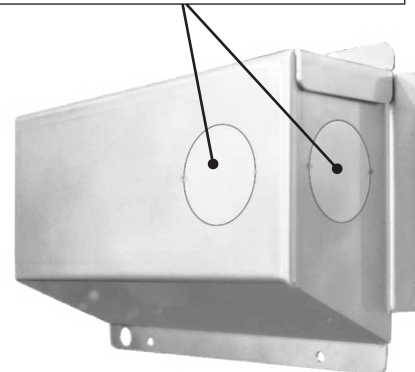

Fig. 24-2 Junction box knockouts
2. Remove the junction box located on the rear of the unit. Select and remove a knockout from the junction box that will best suit your electrical setup. Route the wiring through the selected knockout opening. See Fig. 24-2.